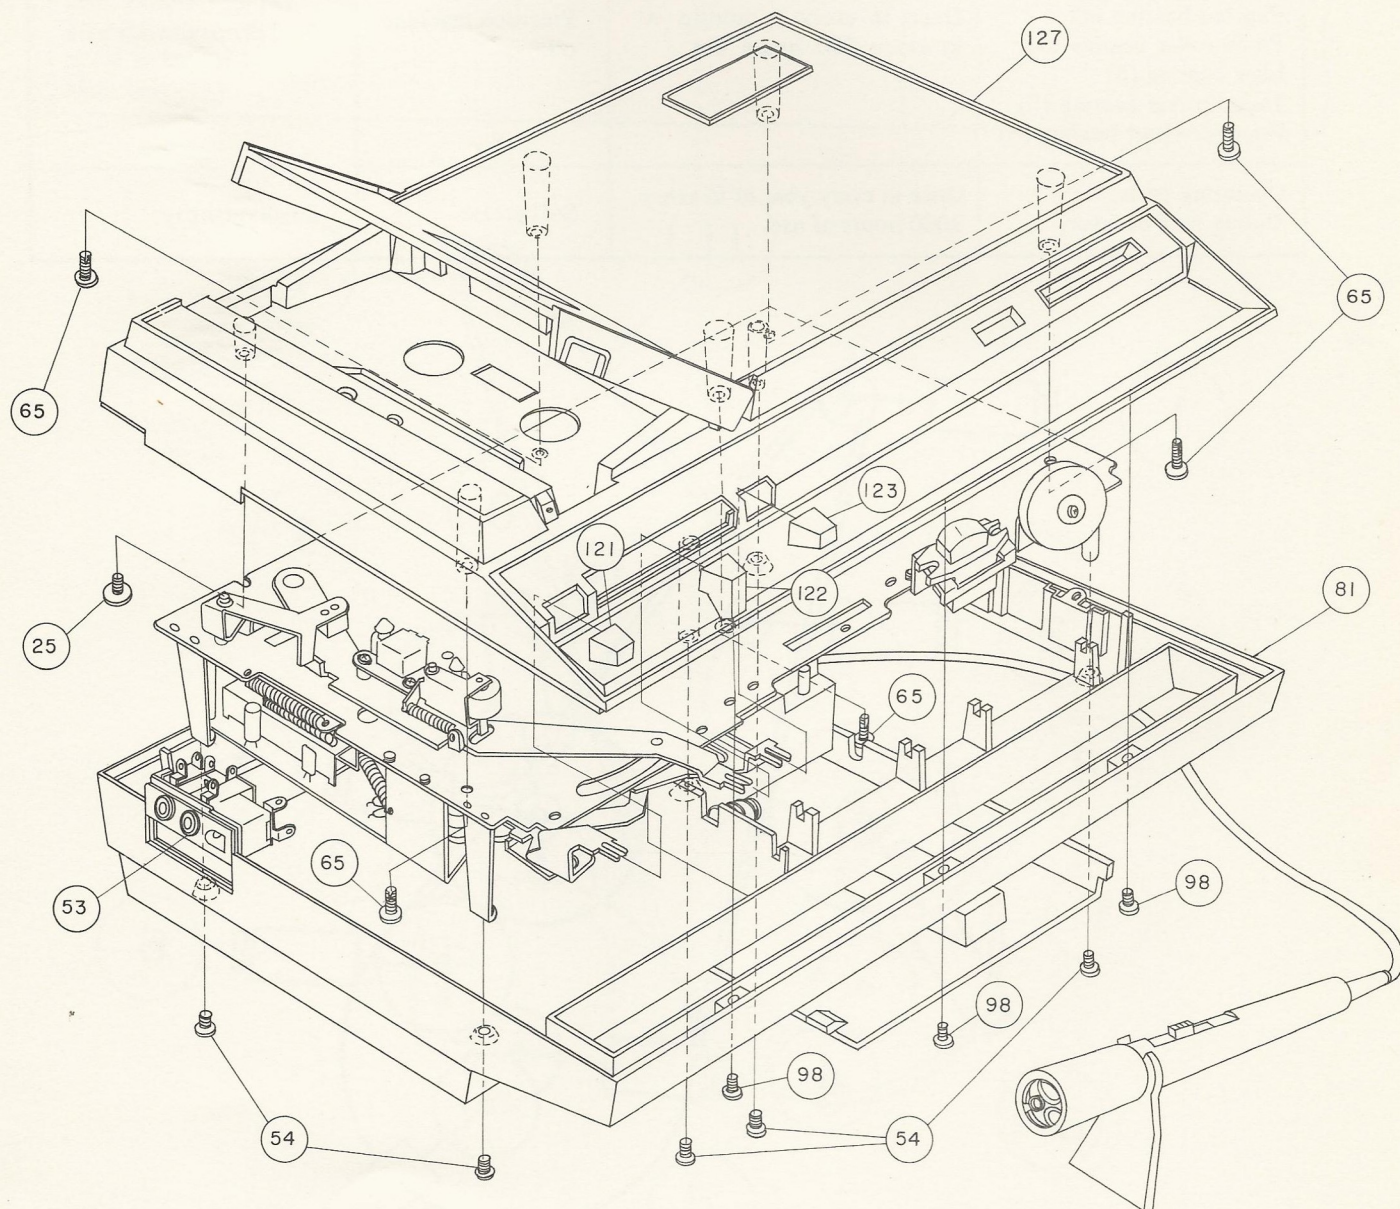

FIG. 2
1. DISASSEMBLING OF MECHANISH (Refer figure 2)